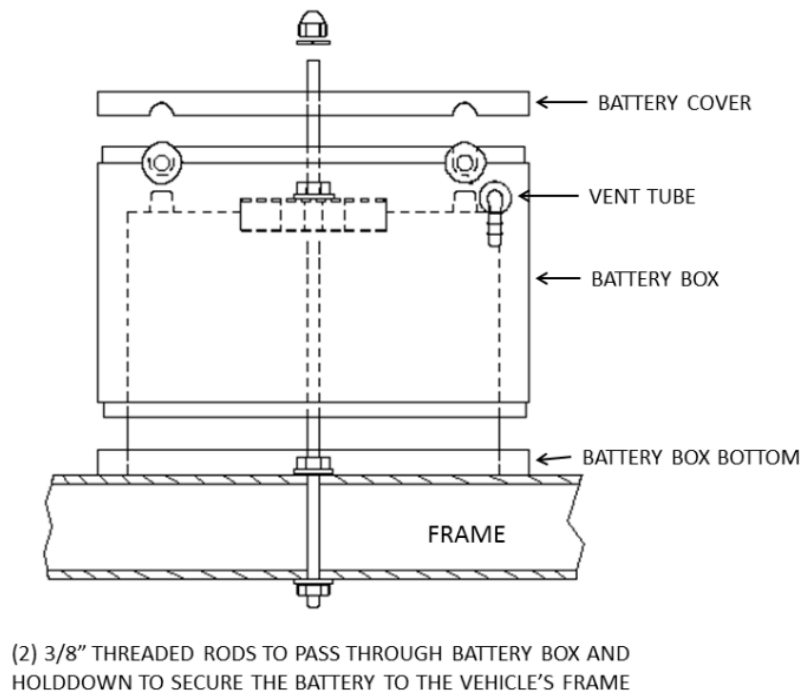

Figure 23
- G. Refer to Figure 23 (Example from Taylor Cable- Part number 48103)